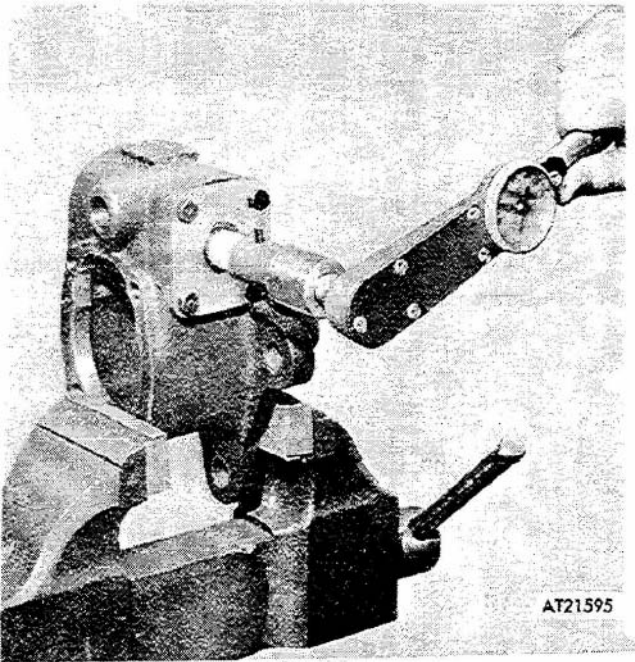

Figure 3-222. Checking rear steering gear box worm gear preload.
(6) Check worm gear preload using a suitable adapter and inch-pound torque wrench (fig 3-222). Preload in a nine inch radius, should be  $\frac{5}{8}$ - $1\frac{1}{4}$  lbs-in., if not, add or subtract the number of shims (4, fig 3-212) to obtain proper preload.